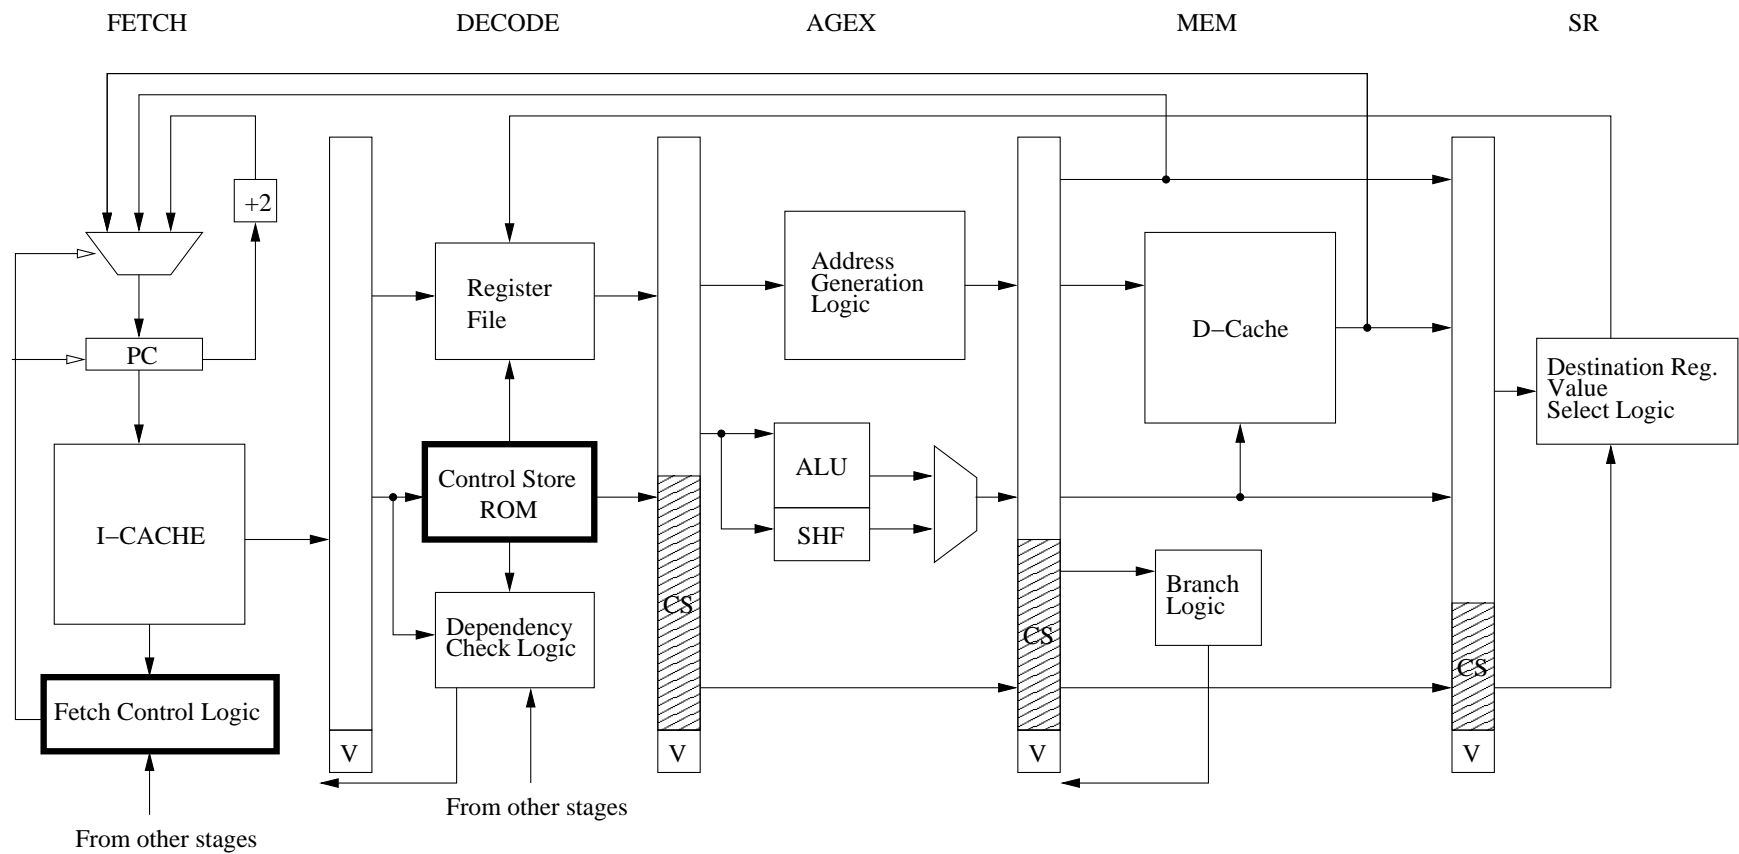

Fig.1 LC-3b pipeline diagram
In Lab 6, you will implement a pipelined version of the LC-3b. The pipeline for the LC-3b has five stages: Fetch (F), Decode/Register Read (DE), Address Generation/Execute (AGEX), Data Memory Access (MEM), and Store Result (SR). Between each stage, there are pipeline latches that are used to propagate data through the pipeline every cycle (see Figure 1). The main logic components of each stage are shown in Figures 2-6. You will need to implement each stage as shown in these figures. Some logic blocks in the figures are labeled “LOGIC.” The outputs of these blocks are shown in the figure, but the inputs to some of these blocks are omitted. It is your job to figure out the inputs to these blocks and the implementation of the logic inside the blocks. All of these blocks, including the “Dependency Check Logic,” generate outputs that control the stalling of the pipeline and the insertion of pipeline “bubbles”.